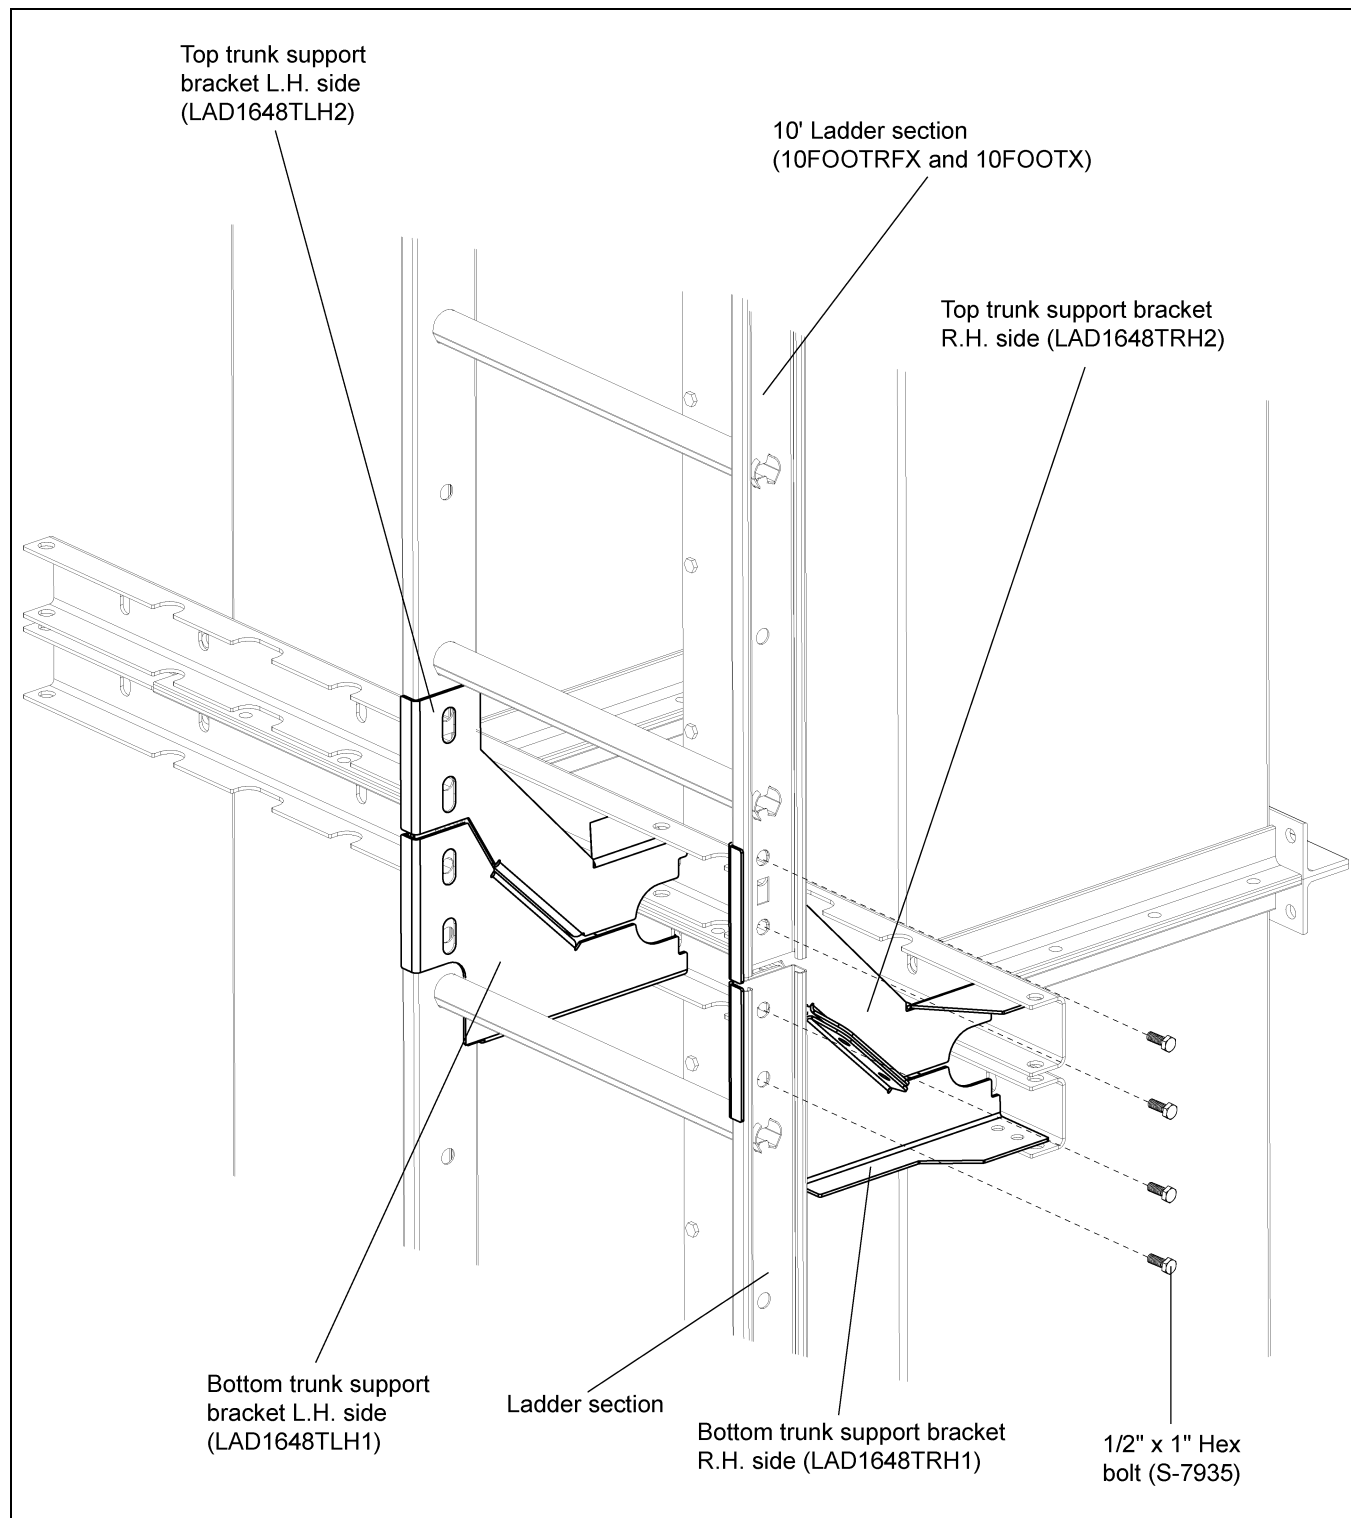

Figure 6Q
1. Attach ladder sections to the ladder brackets using 1/2" x 1" hex bolts (S-7935). *(See Figure 6Q.)*